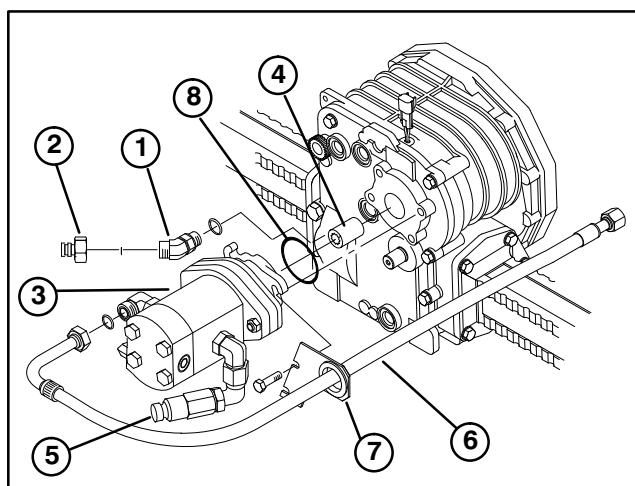
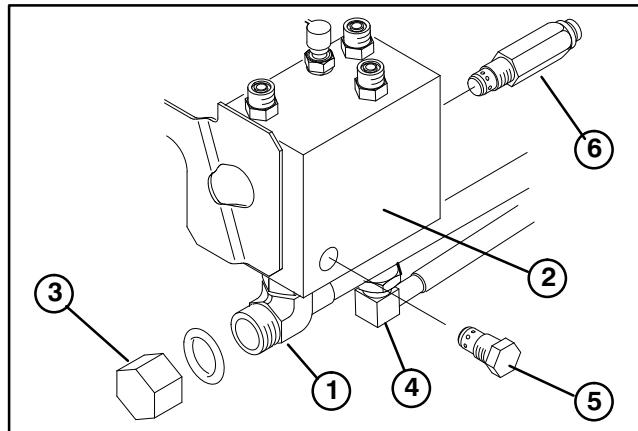

Figure 2
Figure 3
3. Thread a 45° fitting into front of axle (Fig. 2). Tighten fitting until nut contacts axle housing, then, back out until fitting is orientated 45° toward the right side of traction unit. Tighten fitting nut.
4. Thread quick coupler nipple (Fig. 2) onto 45° fitting.
8. Thread (4) new M10 x 30mm bolts into axle until bolt heads are approximately 1/2" from axle surface.
10. Insert hose bracket between bolt heads and pump flanges (Fig. 2).
1. Thoroughly clean hydraulic manifold (Fig. 3).
4. Connect pump supply hose (Fig. 2) to 90° fitting on right side of pump (Fig. 2) and to "T" fitting on bottom of manifold (Fig. 3). Straight end of hose to be routed through grommet on hose bracket, between main axle housing and left lift arm (above left axle shaft housing).
1. Remove plug from "CV" port on left side of hydraulic manifold (Fig. 3).
3. Remove plug from "R1" port on rear of hydraulic manifold (Fig. 3).
2. Position a drain pan under 90° fitting (Fig. 3) on bottom of hydraulic manifold.
1. Loosen (4) M10 x 30mm bolts securing pump to axle and remove hose bracket from bolt.
2. Position a drain pan under hydraulic manifold (Fig. 3) and disconnect pump supply hose from "T" fitting on bottom of manifold.
6. Re-install cover plate to axle with (4) M10 x 25mm bolts.